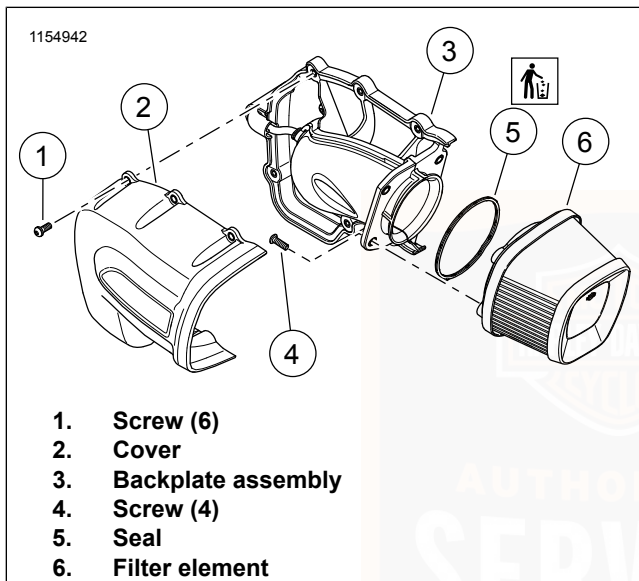

Figure 73. Air Cleaner: Square
1. See Figure 73. Remove air filter cover.
- a. Remove screws (1).
- b. Remove cover (2).
- a. Remove screws (4).
- b. Remove filter element (6) and seal (5). Discard seal.
1. See Figure 73. Install filter element.
- a. Install **new** seal (5) on filter element (6).
- c. Install screws (4). Tighten. 48–72 **in-lbs**